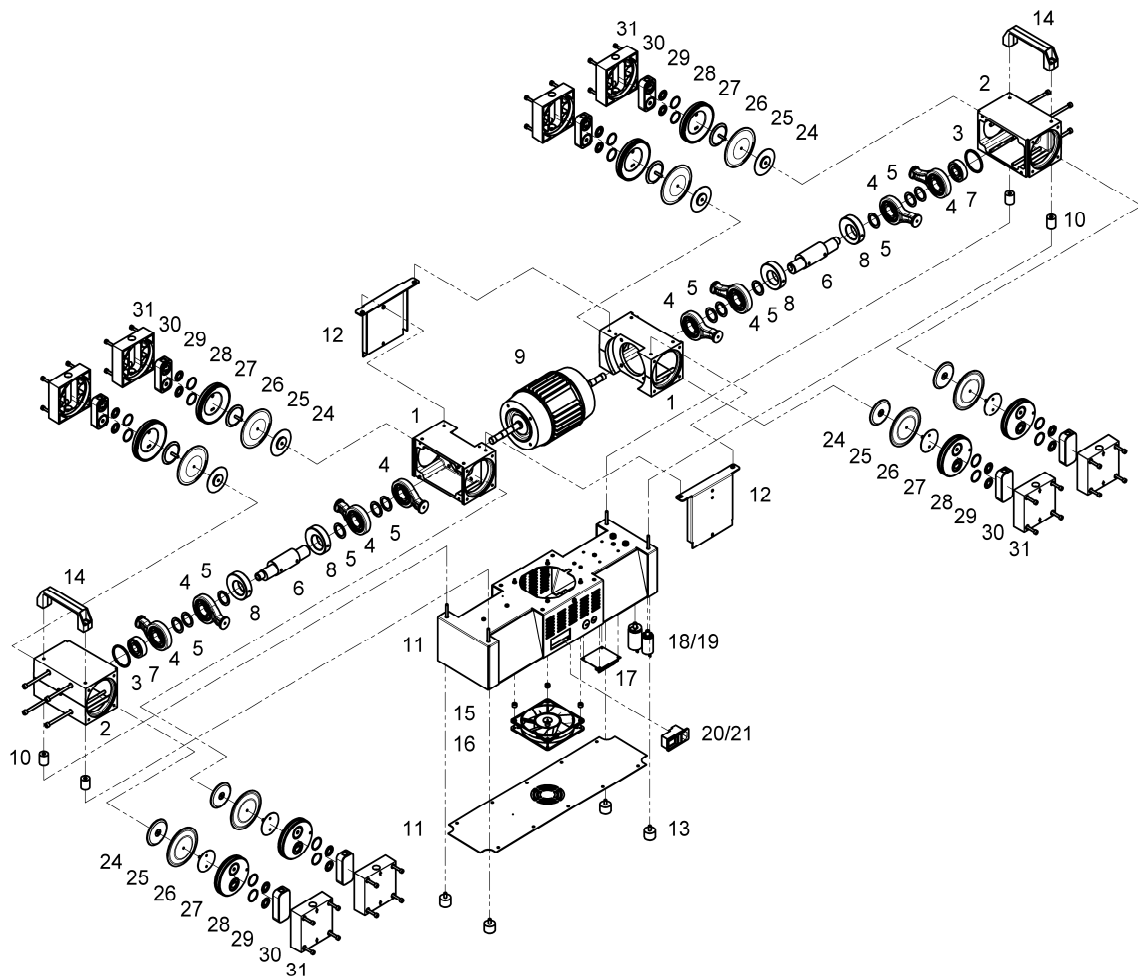

Fig. 5 Exploded view - Basic structure (Diaphragm pumps 8-headed)
2. Use the size 3 pin-type face wrench to tighten the pressure disc (8), the diaphragm (7) and the strain washer (6) with the correct torque of 2 - 4 Nm.
3. Bring the connecting rod (see fig 5) and the diaphragm (7) into the central position.
4. Replace the pump head (5).
5. Insert the valves (3) and the o-rings (4).